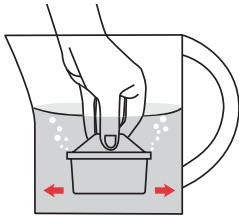

Figure 1
- Immerse the cartridge in cold water and agitate gently to remove any air bubbles. (See figure 1).